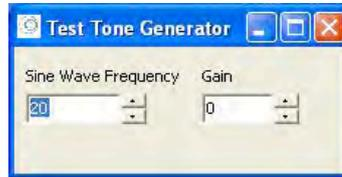

Figure 4-7: Test Tone Generator
- Test tone settings: The Test Tone is a simple Sine wave generator with controls for level and frequency (see Figure 4-7 below)